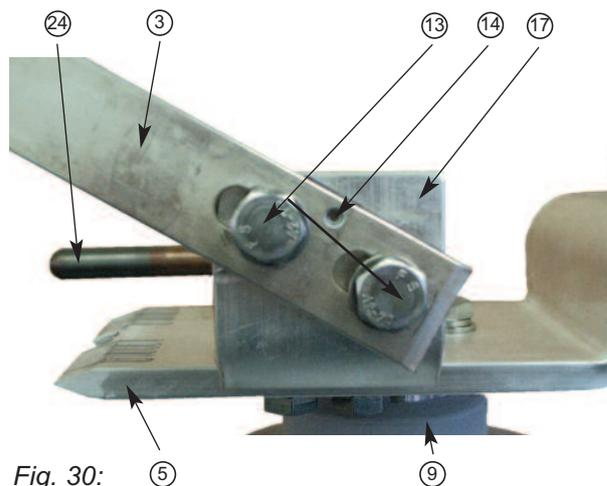

Fig. 30:
- Drill a hole through to the contact bracket (17) with a 4 mm diameter using the pre-bored hole of 4 mm diam. in the contact arm (3). Then fix the final position of the contact arm (3) by inserting a dowel pin 4x16 (14). (Fig. 30)